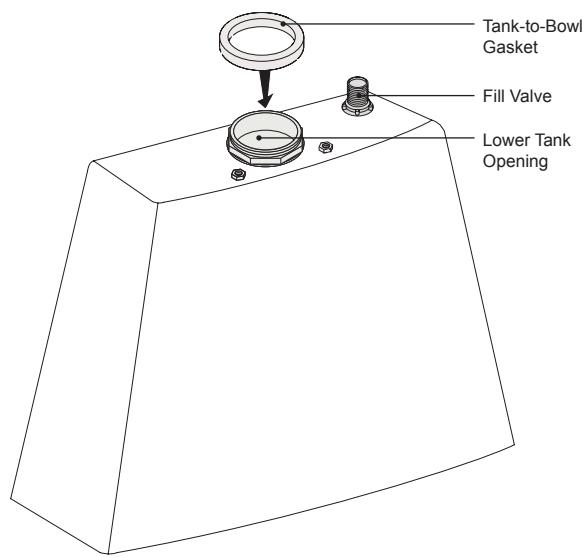

Figure 9
- ① Turn the tank upside down and press the tank-to-bowl gasket into place over the lower tank opening (Figure 9).
- ② Turn the tank back over (right side up).